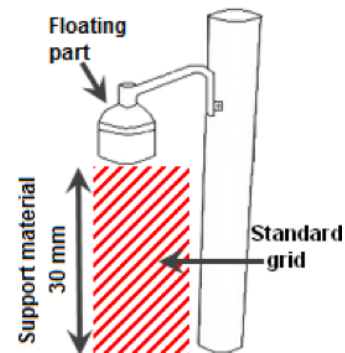

Figure 3: Models with floating parts supported by SUP706/706B.
- When the model includes floating parts that are more than 30 mm high (see Figure 3).